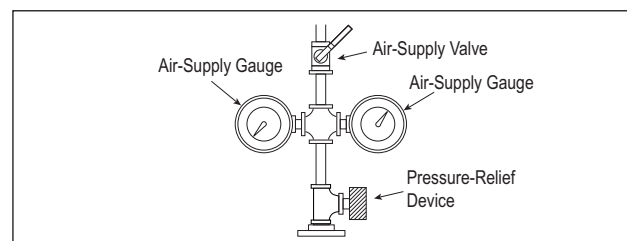

FIGURE 3-1
3.3.1. Construct a test manifold with two air-supply gauges as shown in FIGURE 3-1. Each air-supply gauge must have a maximum full-scale reading of 15 psig with 1/4-lb. or 1/10-lb. increments, and a pressure-relief device set at 6 psig [4 psig for 12-foot-diameter tanks].